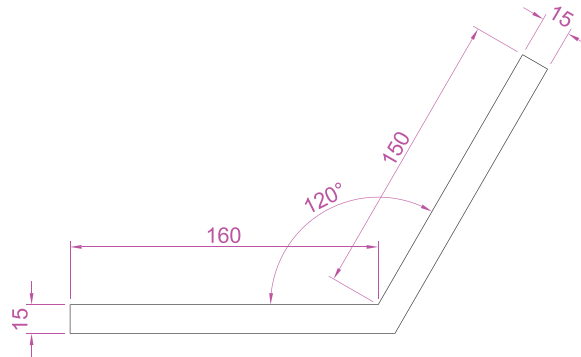

Fig. 17.5 First example – Changing UCS planes – pline for extrusion
3. Construct the pline outline in Fig. 17.5 and extrude to 120 high.